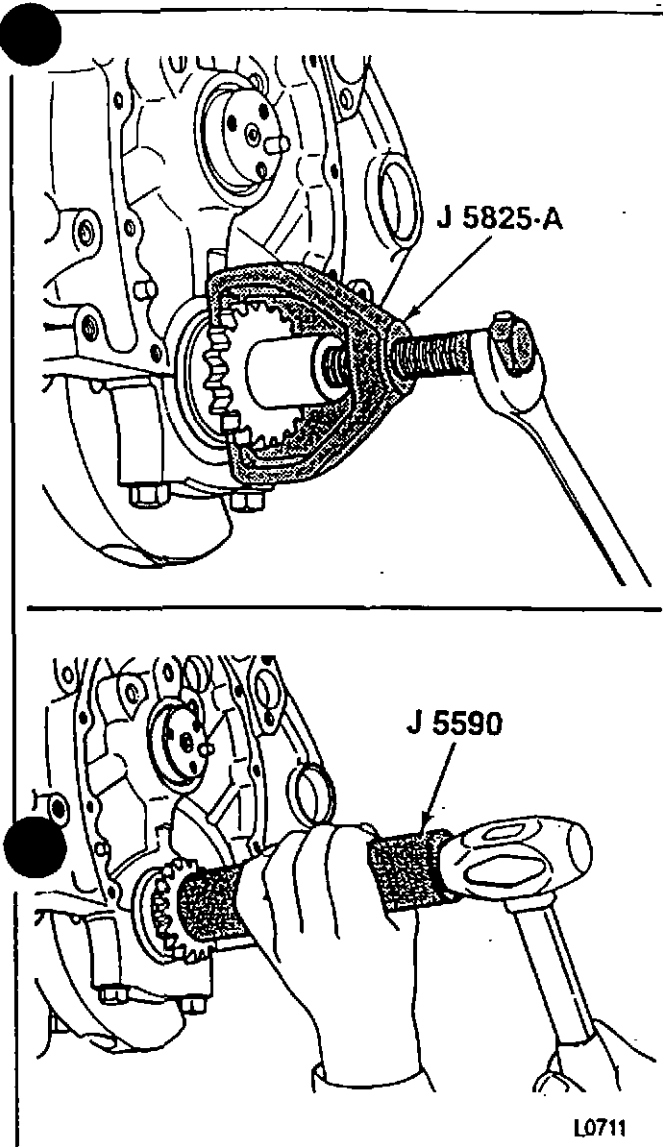
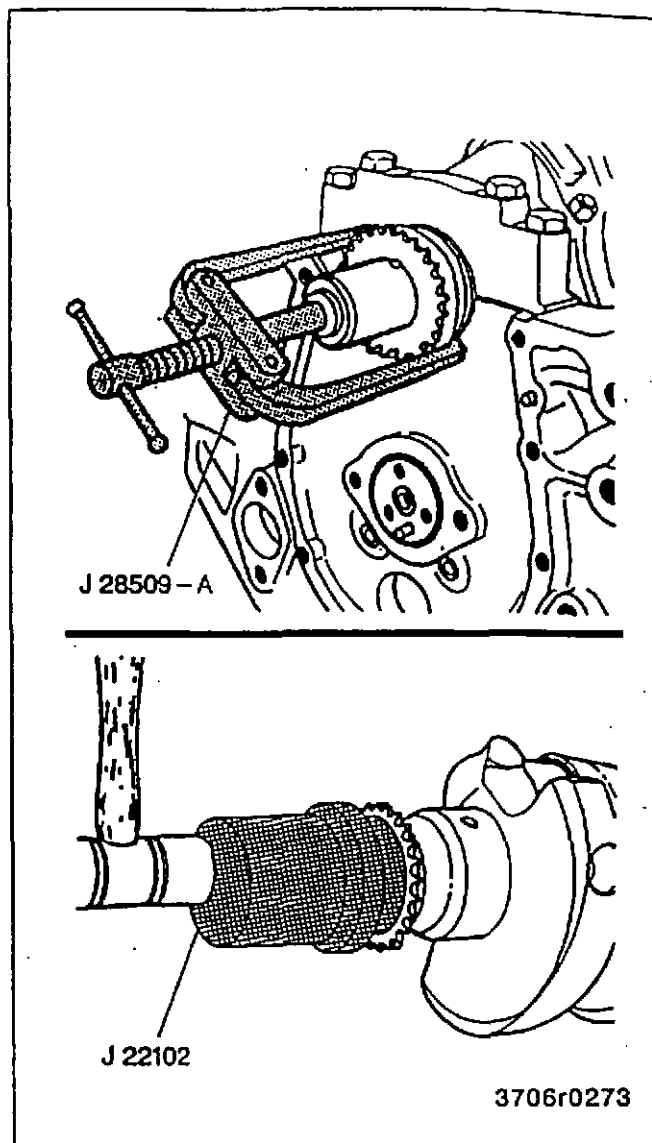

Figure 49—Crankshaft Sprocket Replacement (5.0L and 5.7L Engines)
Figure 50—Crankshaft Sprocket Replacement (7.4L Engines)
Disassemble (Figures 49 and 50)
1. Crankshaft sprocket. On 5.0L and 5.7L engines, use J 5825 (figure 49). On 7.4L engines, use J 28509-A (figure 50).
Assemble (Figures 49 and 50)